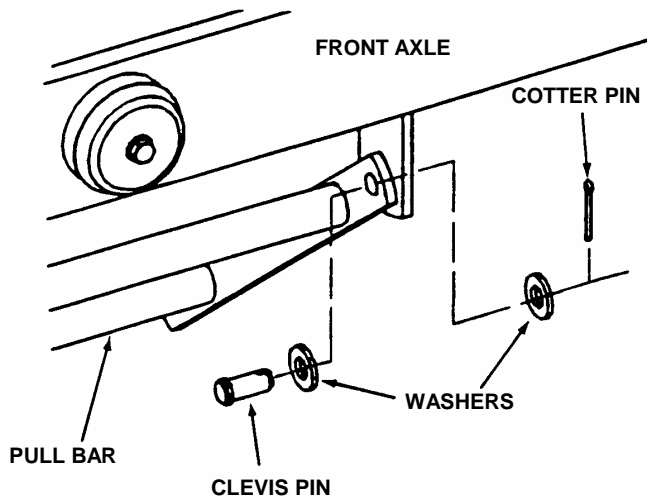

FIGURE 3.11
5. Disconnect pull bar from front axle by removing clevis pins and cotter pins. See Figure 3.11.